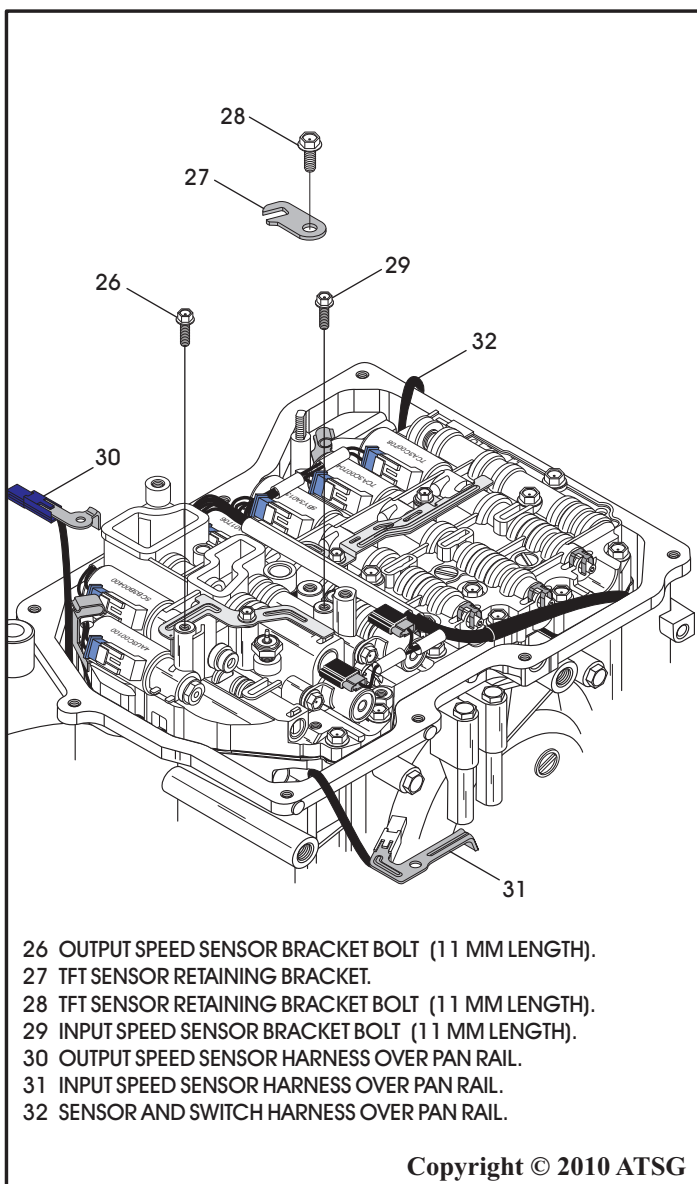

Figure 57
4. Remove the bolts retaining the blue connector output speed sensor bracket and white connector input speed sensor brackets (See Figure 57).
5. Remove the bolt retaining the TFT sensor and the retaining bracket, as shown in Figure 57.
16. Remove the connectors from both speed sensors, both pressure switches (if used), as shown in Figure 57.
17. Lay the sensor and switch harness from 8 way connector over the pan rail (See Figure 57).
18. Lay the output speed sensor harness over the pan rail, as shown in Figure 57.
19. Lay the input speed sensor harness over the pan rail, as shown in Figure 57.